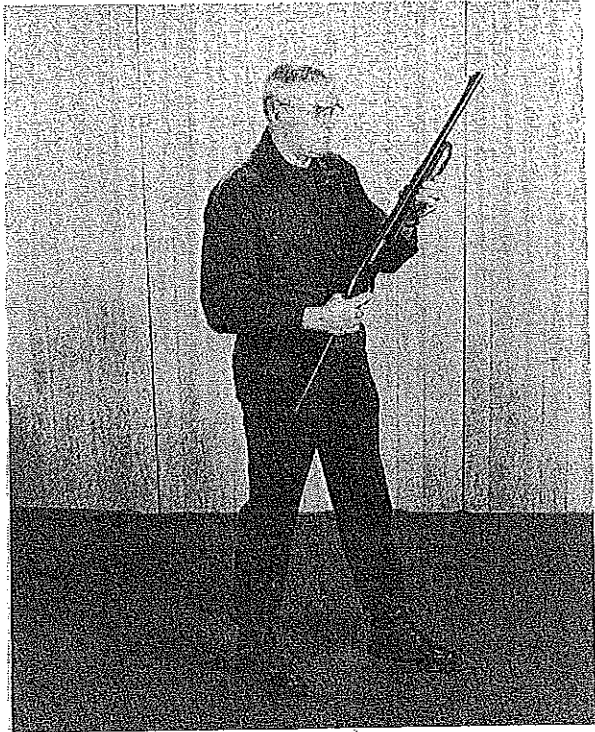

FIGURE 74
2. Port arms position. (Figure 74)